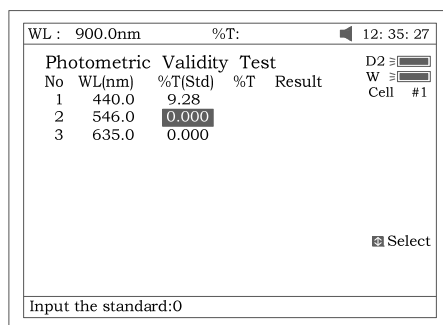

Fig 91
2. Press **[F1]** to set the standard value, Press **[ENTER]** to edit and input by pressing the numeric keypad (Fig 91). **[ESC/STOP]** to finish inputting and exit.